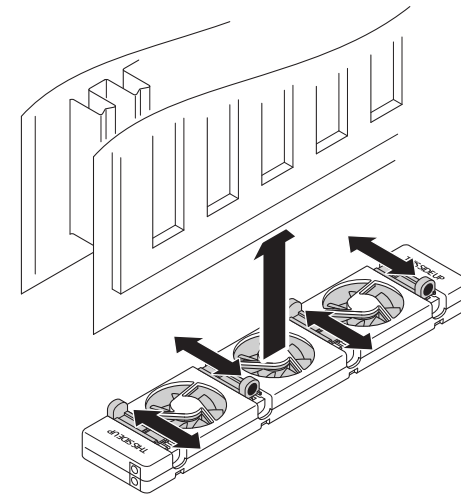

Fig. 4 – Inserting the SpeedComfort (A) between the radiator panels.
For long radiators, additional **SpeedComfort** units (A) can be linked using 30 cm **connecting cables** (F) (see Fig. 4).
- Connect the **connecting cables** (F) between the **SpeedComfort** units (A) to form one continuous set.
- Multiple **SpeedComfort** units (A) can be powered by a single **power adapter** (D), with a maximum of five units per adapter.
- Standard **connecting cables** of 30 cm (F) are included.
- If required, longer **connecting cables** of 60 cm (G) and 120 cm (H) are available